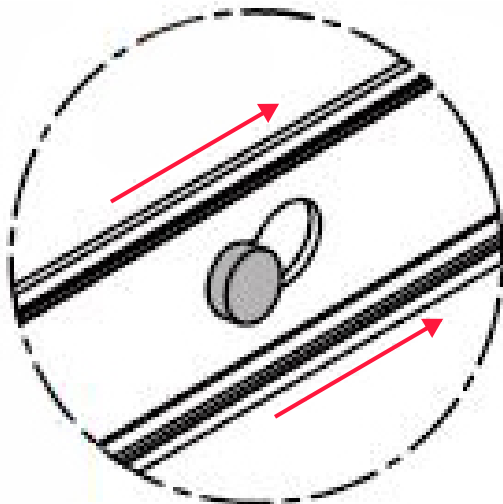

Figure 2.14 Securing the standoff over the keyhole
2. Slide the rail towards the back of the enclosure to secure the standoff on the smaller section of the keyhole to lock the rail in place, which is accompanied by an audible click. Refer to Figure 2.14.